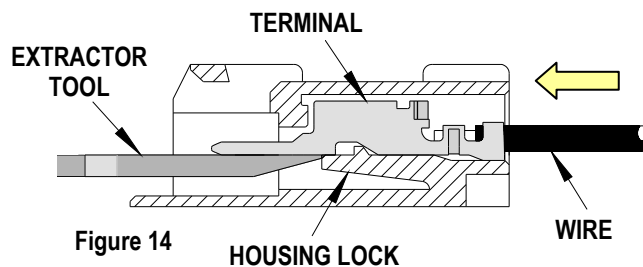

Figure 14
1. Push the terminal forward in the arrow direction before using the Extractor Tool. Insert the Extractor Tool into the slot on the side of the connector housing as shown in Figure 14.